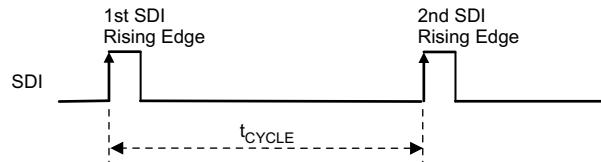
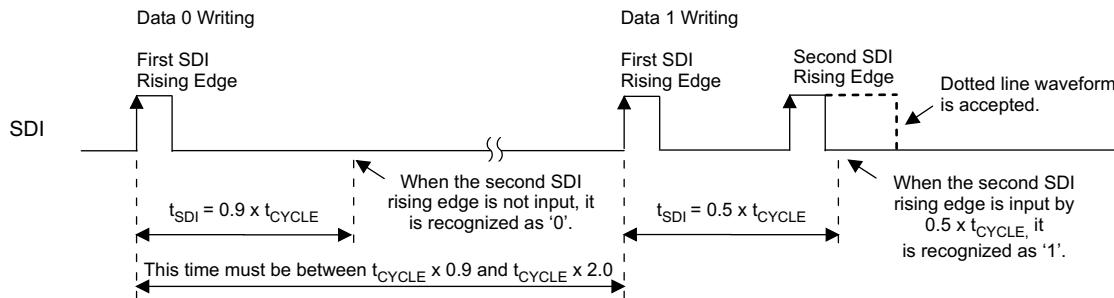

Figure 14. Data Transfer Rate (t_{CYCLE}) Measurement
Figure 15. Data '0' and '1' Write Operation
The TLC5973 measures the time between the first and second SDI rising edges either after the device is powered up or when the GS data latch sequence is executed (as described in the GS Data Latch Sequence \(GSLAT\) section) and the time is internally stored as t_{CYCLE} . t_{CYCLE} serves as a base time used to recognize one complete data write operation, a 48-bit data write operation, and a GS data write operation to the GS data latch. t_{CYCLE} can be set between 0.33 μ s and 10 μ s ($f_{CLK(SDI)} = 100$ kHz to 3000 kHz). In this sequence, two instances of data '0' are written to the LSB side of the 48-bit shift register. Figure 14 shows the t_{CYCLE} measurement timing.
When the second SDI rising edge is not input before $0.9 \times t_{CYCLE}$ elapses from the first SDI rising edge input, the data are recognized as '0'. When the second SDI rising edge is input before 50% of t_{CYCLE} elapses from the first SDI rising edge input, the data are recognized as '1'. This write sequence must be repeated 46 times after the t_{CYCLE} measurement sequence in order to send the write command to the higher 10-bit (3AAh) and 36-bit GS data. Figure 15 shows the data '0' and '1' write timing.
2. Write the 48-bit data packet (MSB-first) for the first device using t_{CYCLE} and the data write sequences illustrated in Figure 14 and Figure 15. The first 12 bits of the 48-bit data packet are used as the write command. The write command must be 3AAh (001110101010b); otherwise, the 36-bit GS data in the 48-bit shift register are not copied to the 36-bit GS data latch.